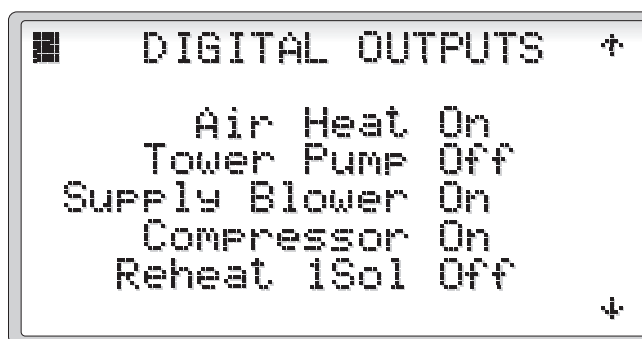

Figure 55
2.3.3.6.3 Digital Outputs (Binary) (Figures 55 through 57)